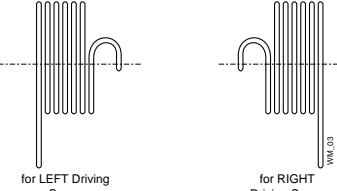

figure WM 3 - Left and Right Locking Springs
- Select the right Locking Spring: The springs for Left- or Right Driving Screws are different, but look alike; see figure WM 3.